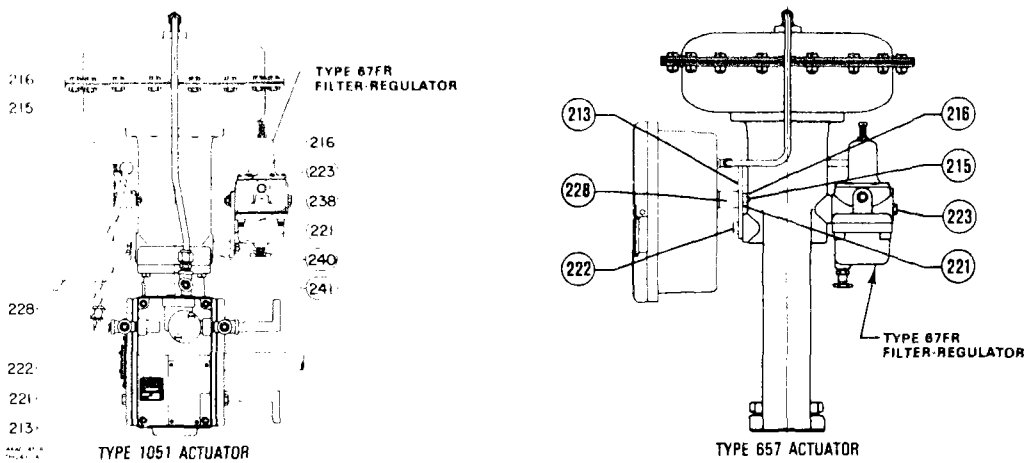

Figure 4. Actuator Mounting
Mounting parts for various actuator types and sizes vary. Two typical actuator-mounted installations are shown in figure 4; see the "Parts List" section for parts required for the specific actuator type and size involved. Attach spacer spools and mounting plate (keys 228 and 213, figure 4) to the controller with cap screws, lock washers, and nuts (keys 215, 221, and 216; figure 4). Attach the mounting bracket to the actuator yoke with cap screws (key 222, figure 4) and, if needed, spacer spools. On some designs, the mounting bracket is to be attached to the actuator diaphragm casing rather than the yoke.